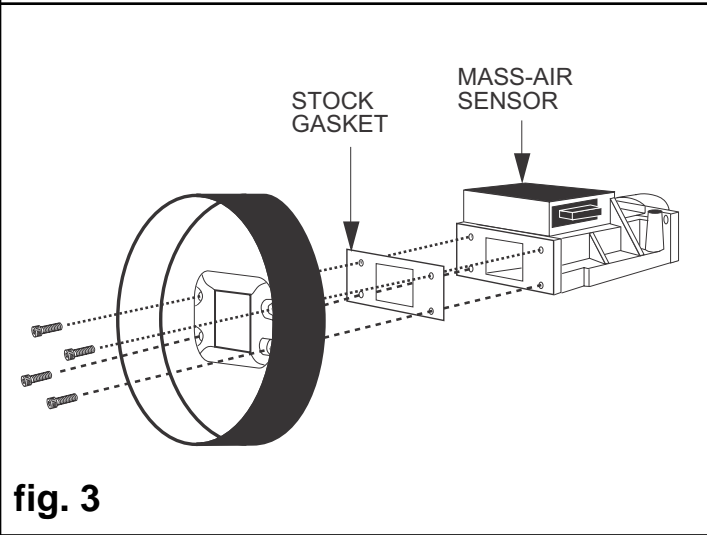

fig. 3
- 9) Position the "V" bracket to line up with the holes from the ballist resistor, and fasten the ballist resistor to the bracket with the provided hardware.(see fig.3)